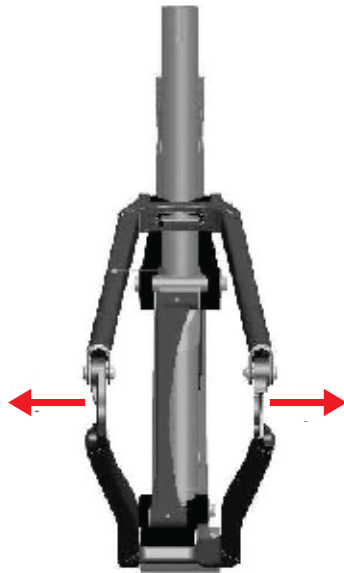

Fig.2
3. If the suspension moves smoothly through its travel, check for any side to side movement. Hold the dropouts and try and move them to the left and right. Any looseness may be a sign of loose bearing bolts or worn bearings. (Move suspension as shown in Fig.2)